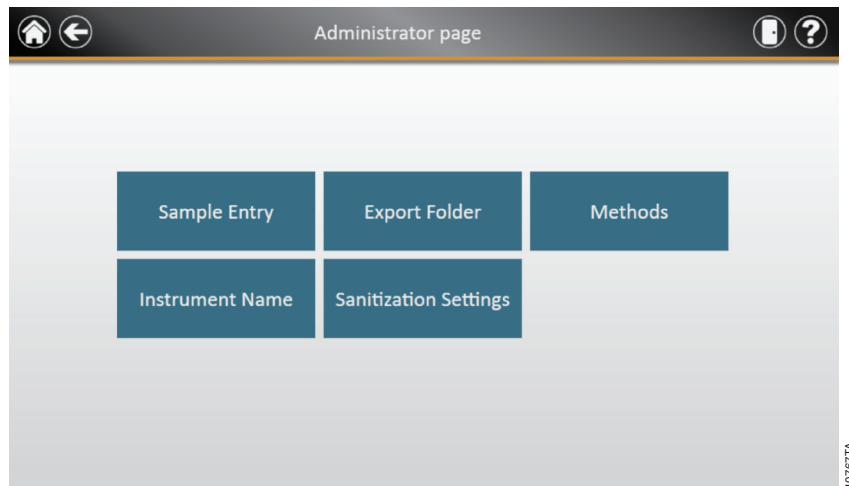

Figure 32. Maxwell® CSC Administrator page. The Administrator page is only visible to administrators and gives access to sample entry and additional options.
3. From the Maxwell® CSC Administrator page (Figure 32) touch the **Sample Entry** button.